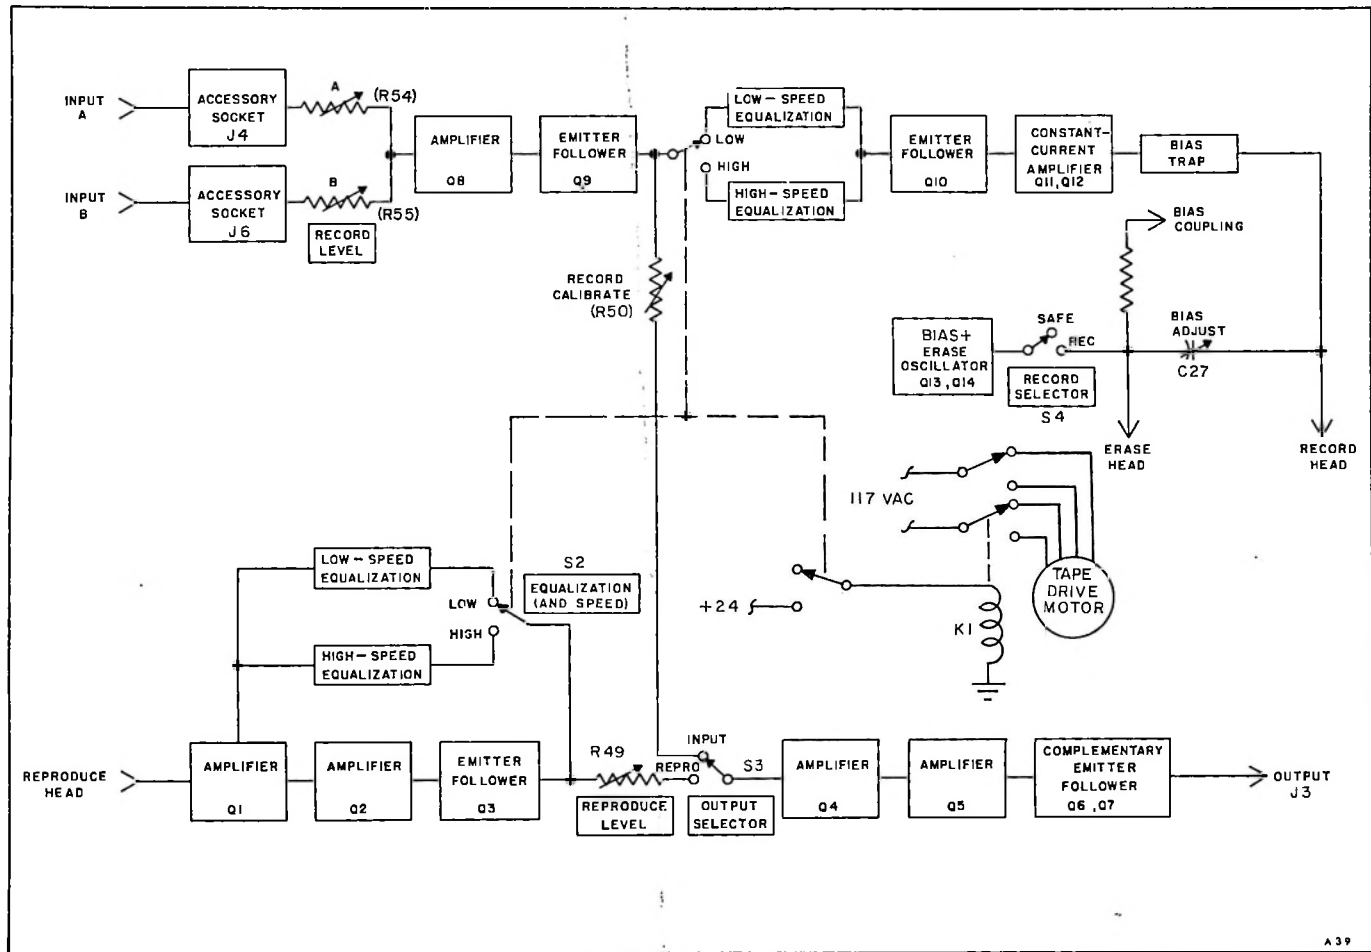

Figure 6-2. Electronic Circuit Diagram
2. The rubber-tired fast forward clutch (9) contacts the motor pulley (8) to drive the takeup turntable.
6.11 ELECTRONIC OPERATION (See Figure 6-2)